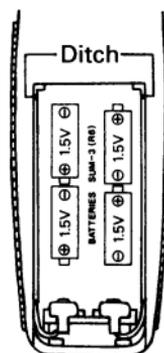

Fig. 5
- 1-2 Place four SUM-3 (R6) batteries into the battery compartment with the direction of their polarities correctly arranged as shown in Fig. 5. In this case, battery attachment can be done easily if the innermost two batteries are attached first.
- 1-3 Place the battery cover on the ditch as shown in Fig. 5. Undo the battery cover by pushing it up in a sliding mode.
The inner batteries have worn out in such a condition as they do not satisfy the ratings of the unit if the low battery alarming LED in the display lights as in Fig. 5 with the measure switch kept depressed. Replace them with new ones at once. Also, do battery replacement if nothing is shown in the display.